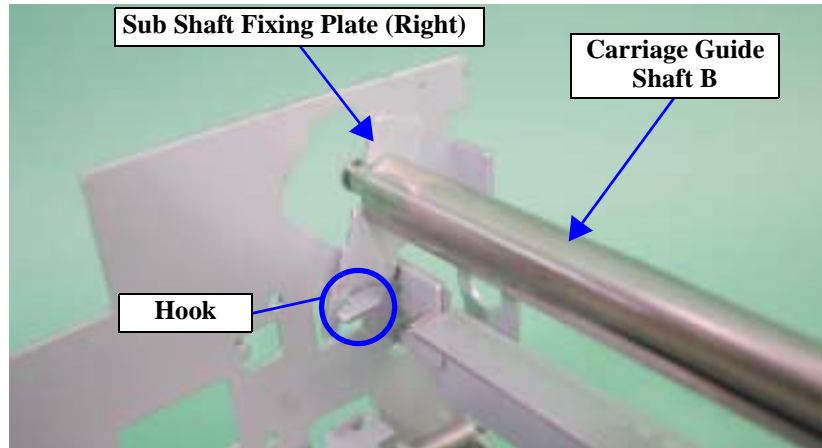

Figure 4-69. Removing the Sub Shaft Fixing Plate (Right)
- When removing the Carriage Guide Shaft B, fully take care not to scratch it. Refer to Figure 4-69, "Removing the Sub Shaft Fixing Plate (Right)".
- After reinstalling the Carriage Guide Shaft B, always make sure that the Sub Shaft Fixing Plate is mounted correctly. Refer to Figure 4-69, "Removing the Sub Shaft Fixing Plate (Right)".